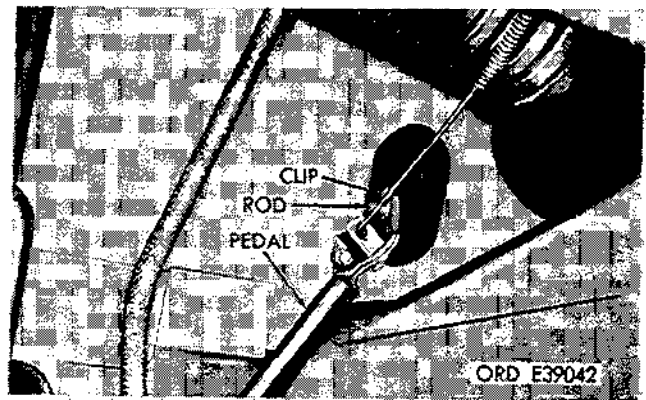

Figure 2-100. Remove rod to pedal clip.
(2) Remove accelerator rod to pedal clip (fig. 2-100).